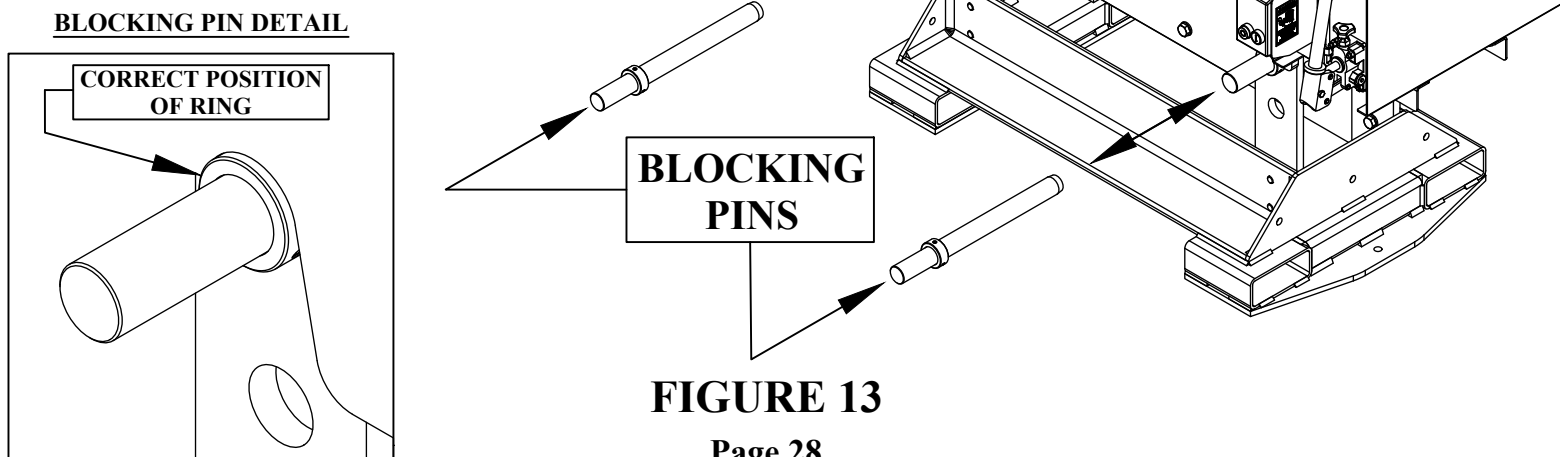

FIGURE 13
- There is a hook on the left and right side of the press. They are attached to the crossbars used in the table as shown in FIGURE 13. These shafts have a shallow groove machined in the center where the hooks are to be located when lifting the table.